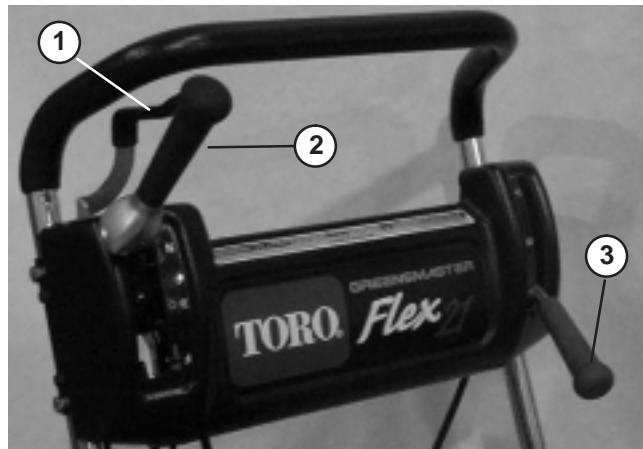

Figure 23
The throttle control (Fig. 23) is located on rear right side of control panel. Lever connects to and operates throttle linkage to carburetor. Engine speed can be varied from 2400 RPM to 3600 RPM.
The traction and reel drive engagement lever (Fig. 23) is located on front right side of control panel. Traction lever has two positions: Neutral and Forward. Pushing lever forward engages traction drive.
The service/parking brake (Fig. 23) is located on left front side of control panel. Pulling the lever back over center will set the parking brake. Brake must be released before traction drive is engaged.
4. Move throttle control (Fig. 23) to Fast position.